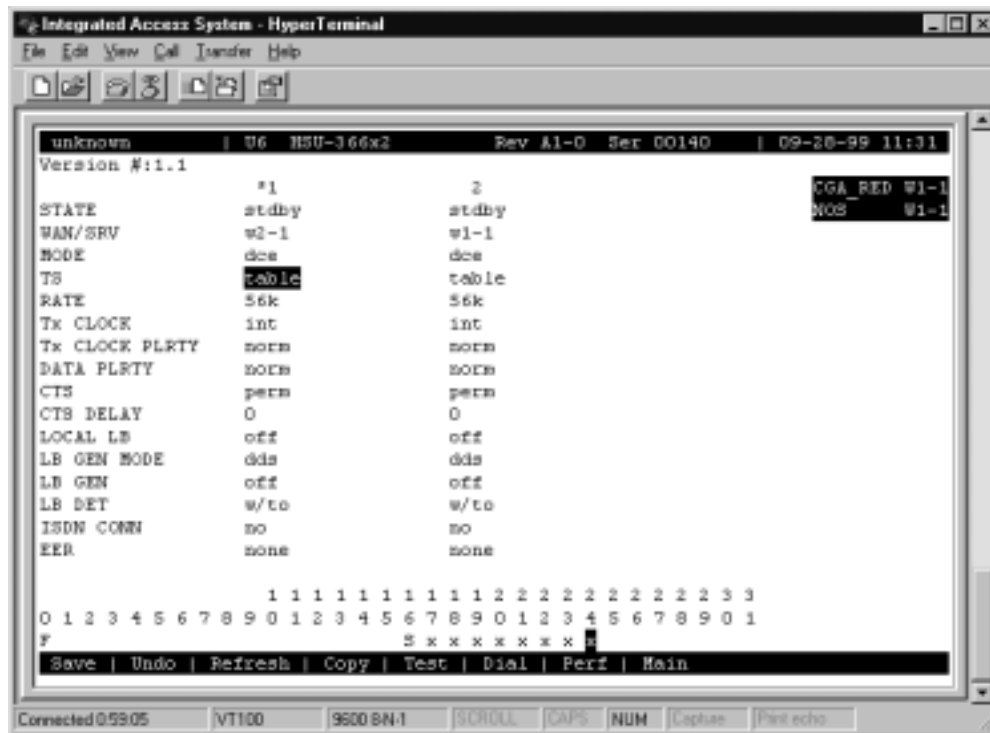
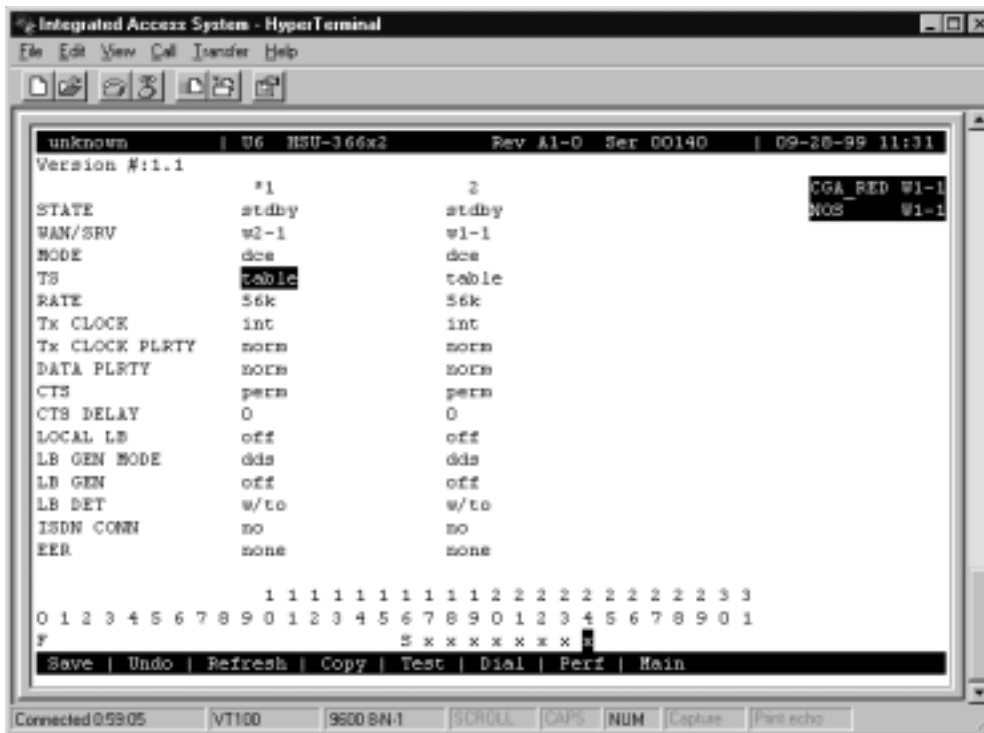

Figure 4-18. Typical HSU Card Time Slot Assignments for T1
Figure 4-19. Typical HSU Card Time Slot Assignments for E1
Figure 4-18 shows the HSU Card Main Screen for the time slot assignment example. Assign time slots to this card as follows:
2. Select the WAN port to which you want to assign the HSU port. In Figure 4-18, this port is **W1-1** (for WAN 1, port 1).
4. Place an “x” under each desired time slot, using the space bar to either select or de-select a time slot. Use the right arrow key to move to the next time slot (TS) for selection. Then, press <Enter>. In Figure 4-18 (for T1), the HSU port is assigned eight time slots (9 to 16). In Figure 4-19 (for E1), the HSU port is assigned eight time slots (17 to 24).